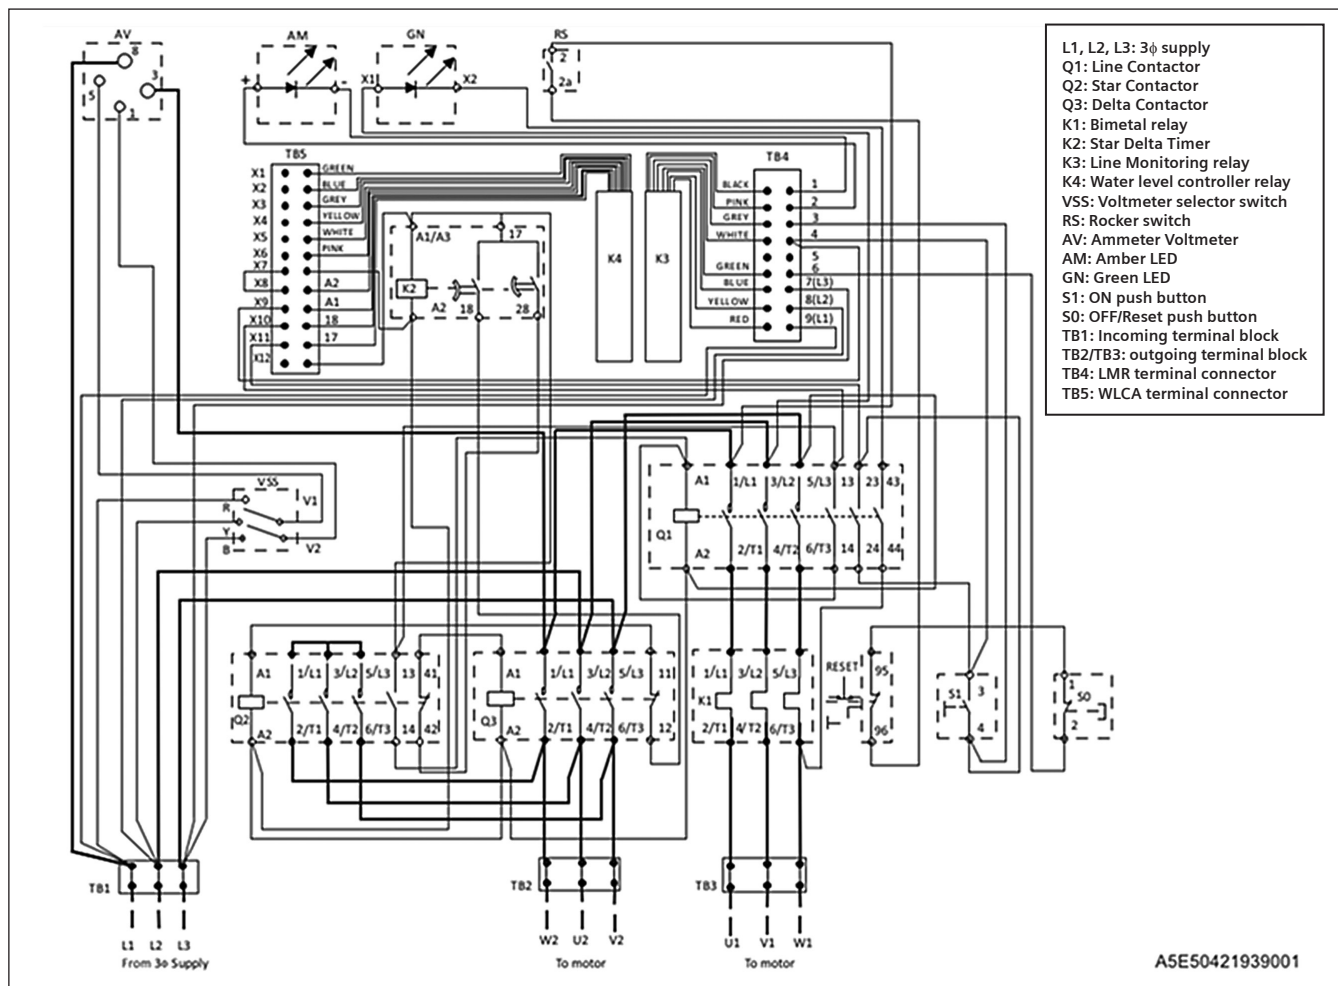

Fig. 5: Wiring Diagram
10. Re-connect all the disconnected wires and check connections by referring to the wiring diagram. (Fig. 5)